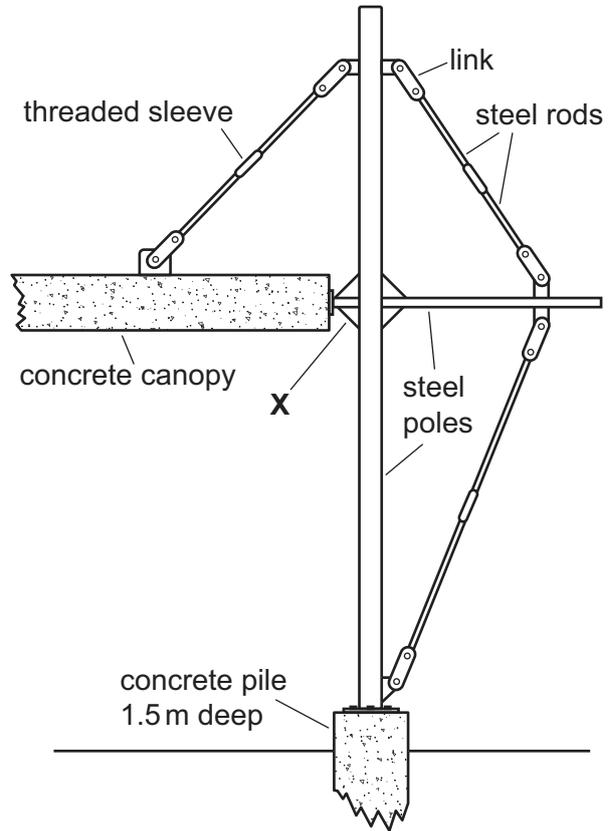

Fig. 10.1
- 10 Fig. 10.1 shows a concrete canopy over the front of a warehouse building. The canopy is supported either side by steel structures that resist forces caused by the weight of the concrete canopy. A detailed view of one of the steel structures is shown.
(iii) Part X in Fig. 10.1 is one of four features at the point where the steel poles are joined. Name part X and explain the part that it plays in supporting the concrete canopy.